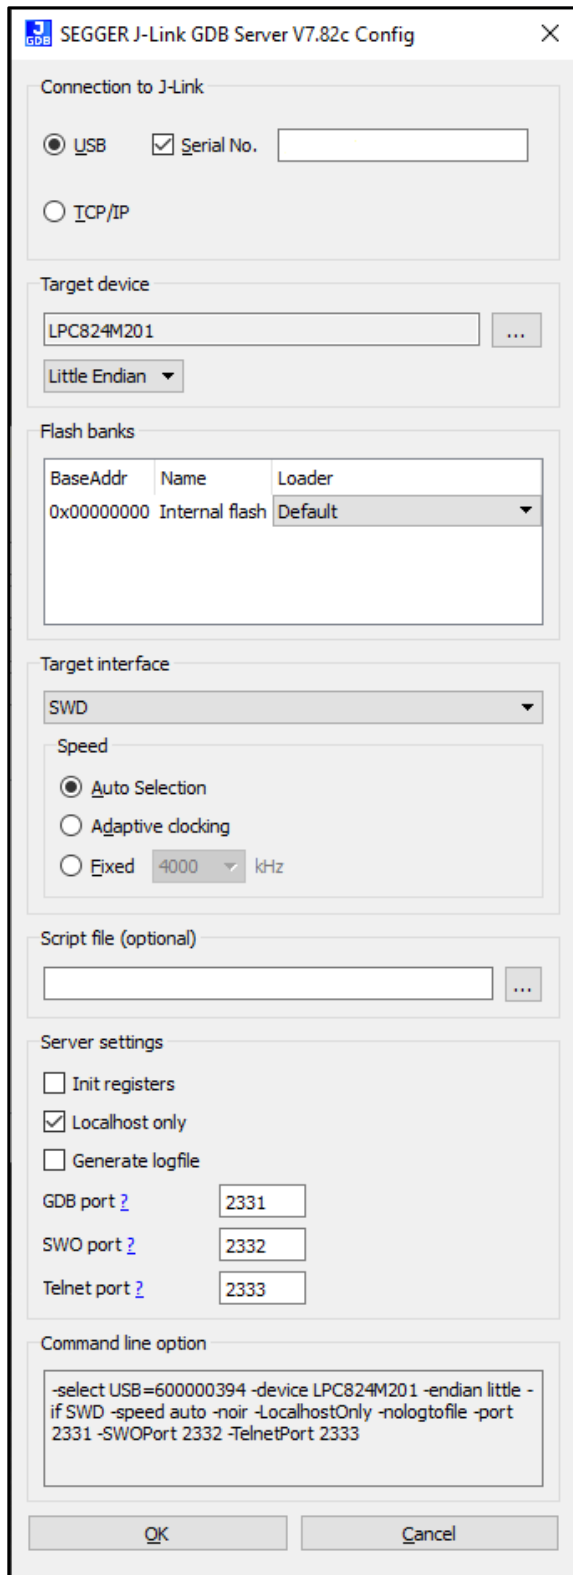

Figure 22 SEGGER GDB server Configuration
- Target device: Note, the developer must select the device, in our example the NXP LPC284 Xpresso evaluation board is the target so we will select the LPC824 MCU. Click the navigation button and the device explorer dialog will appear see (Figure 22 Target Device Settings: NXP LPC284).